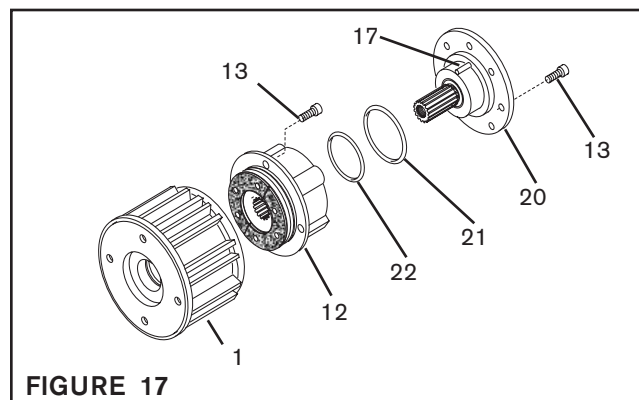

FIGURE 17
24. Lubricate the new O-ring Seals (Items 21 and 22) and the contact surfaces on the Male Pilot (Item 20) and Air Chamber (Item 12) with a thin film of fresh o-ring lubricant (See Figure 17).
25. Install the new O-ring Seals (Item 21 and 22) (See Figure 17).
26. Align the Spring Pin (Item 17) on the Male Pilot (Item 20) with the hole in the Piston (Item 16) and slide the Male Pilot into the Piston and Housing (Item 1) (See Figure 17).
27. Apply a drop of Loctite® 242 to the threads of four Socket Head Cap Screws (Item 13) and secure the Male Pilot (Item 20) to the Air Chamber (Item 12) (See Figure 17).
29. Apply a drop of Loctite® 242 to the threads of four Socket Head Cap Screws (Item 13) and secure the Male Pilot (Item 20) and Air Chamber (Item 12) to the Housing (Item 1) (See Figure 17).